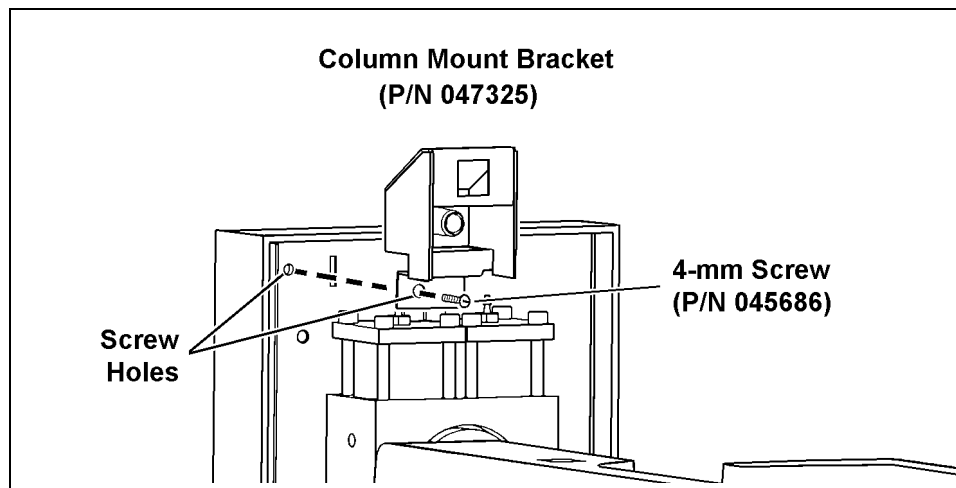

Figure 2-5. Installing the Column Mount Bracket
1. Position the column mount bracket (P/N 047325) behind the front bezel as shown in Figure 2-5. Align the screw hole at the bottom of the column mount bracket with the screw hole on the back of the front bezel.
2. Thread a 4-mm screw (P/N 045686) through the column mount bracket into the screw hole on the back of the front bezel (Figure 2-5). Tighten firmly with a screwdriver.